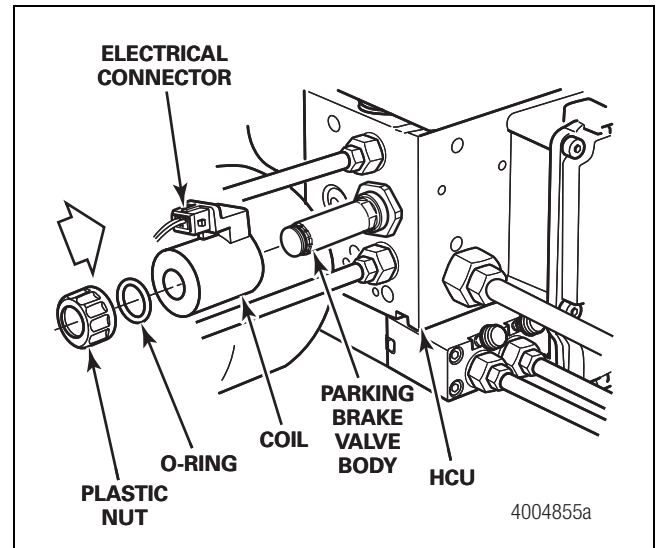

Figure 4.57
4. Position the new pressure supply valve onto the hydraulic compact unit. Use a socket, Snap-On Tools part number A121, to tighten the valve to 27-34 ft-lb (40-50 N•m). Figure 4.57.
6. Attach the electrical connector to the parking brake valve. Figure 4.57.